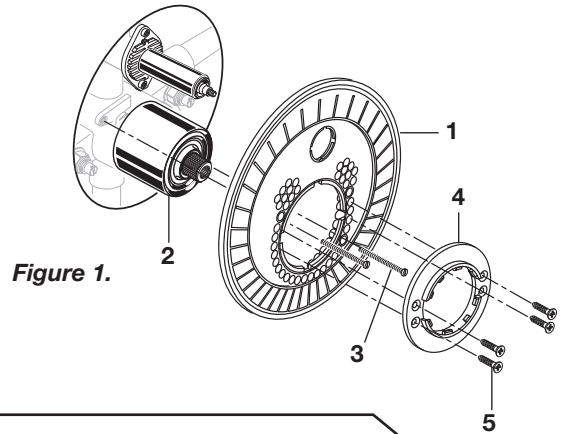

Figure 1.
- **Figure 1.** Push ESCUTCHEON HOLDER (1) onto CAP (2) and attach to valve body with SCREWS (3). Mount ESCUTCHEON SUPPORT (4) to ESCUTCHEON HOLDER (1) with SCREWS (5).